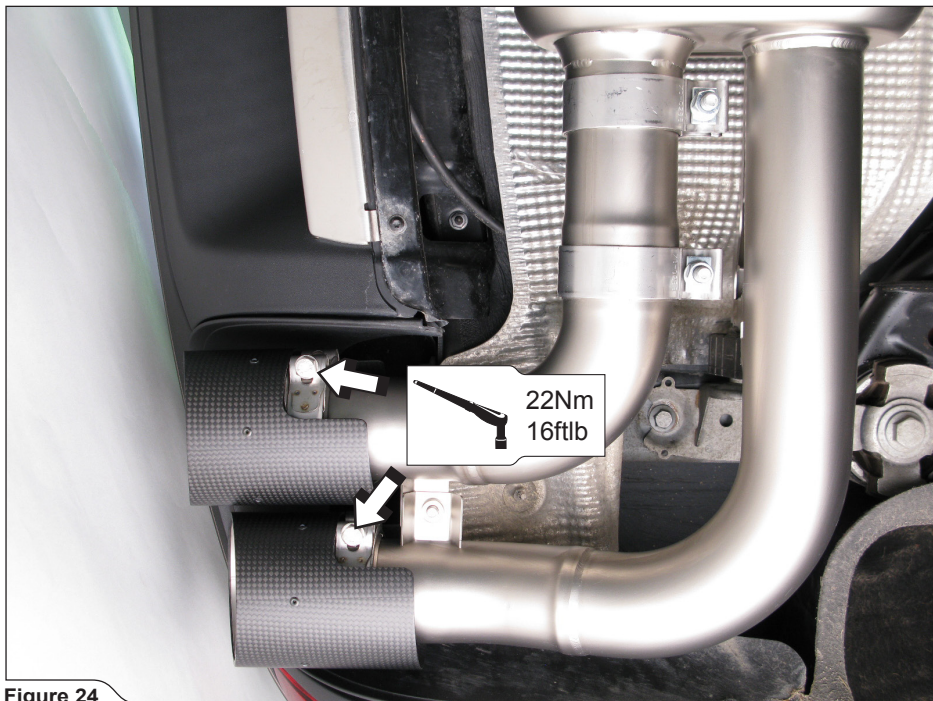

Figure 24
14. **For all models:** tighten tail pipe clamps to the specified torque on both sides of the vehicle (Figure 24).